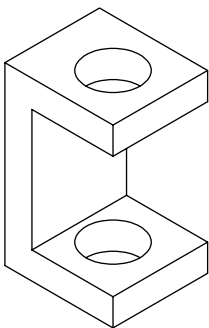

Fig. 7.22 First example – isometric drawing
First example – isometric drawing (Fig. 7.22)
5. Set the isoplane to Isoplane Right and with the **Copy** tool, copy the top with its ellipse vertically downwards 3 times as shown in Fig. 7.22.
7. Finally using **Trim** remove unwanted parts of lines and ellipses to produce Fig. 7.22.